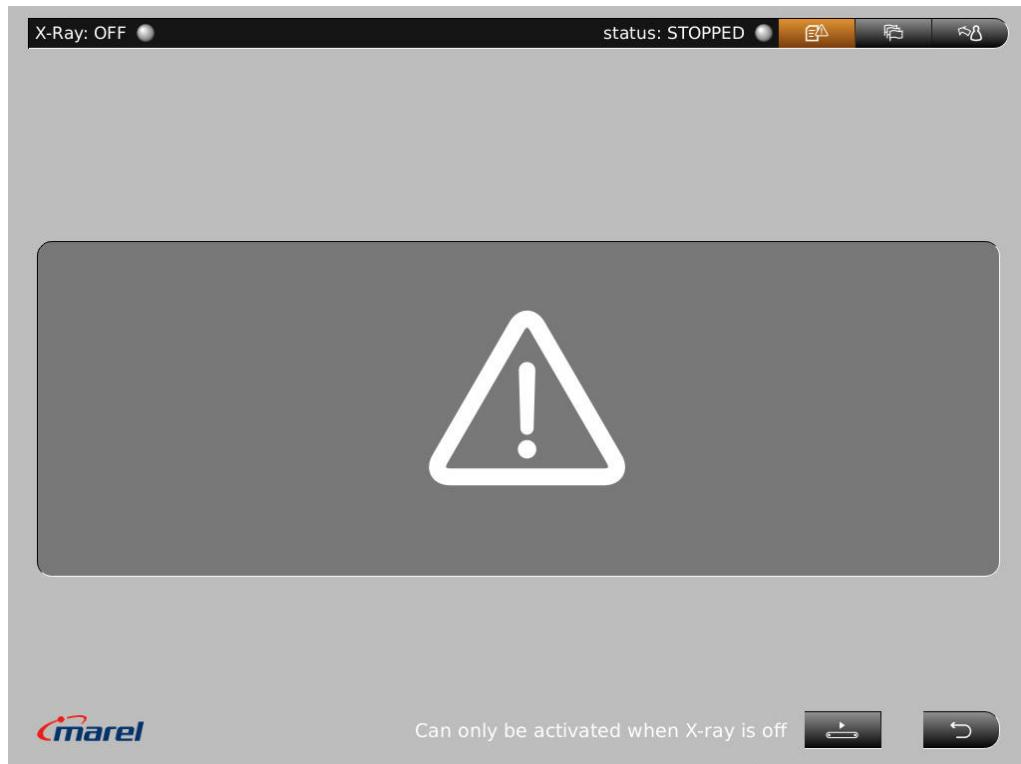

Figure 27 The Emergency Mode page
4. To enable the Emergency Mode tap the start button, see Figure 27. A message window appears.